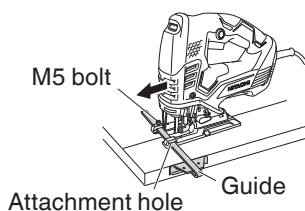

Fig. 13
- (3) Attach the guide by passing it through the attachment hole on the base and tighten the M5 bolt. (Fig. 13)
- (4) Set the orbital position to "0".
NOTE: To ensure accurate cutting when using the Guide (Fig. 13), always set the orbital position to "0".